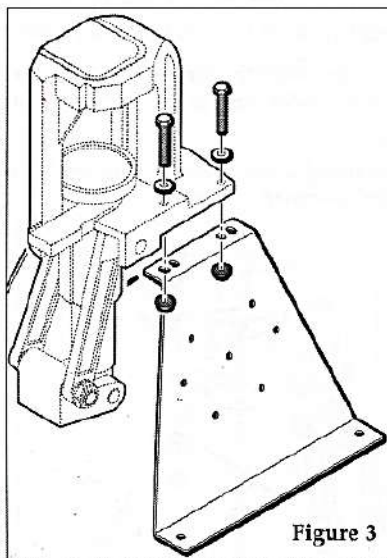

Figure 3
- Step 2 Install the remaining Machine Mounting Bracket on the right side of the RL550B/AT500 Frame, using two short bolts, two washers and two lock nuts, as shown in Figure 3.